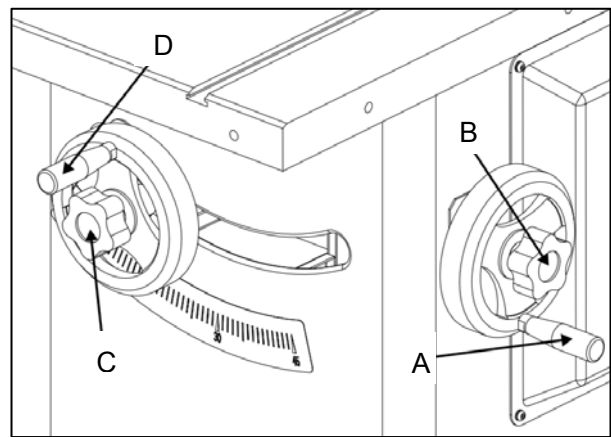

Fig. 32
To adjust the blade elevation : Loosen the lock knob (C) as shown in *Fig. 32* and turn the elevation hand wheel (D). When the desired height is obtained, re-tighten the knob (C). The blade should be raised 1/8” to 1/4” above the top surface of the material being cut.
Refer to *Fig. 32*.